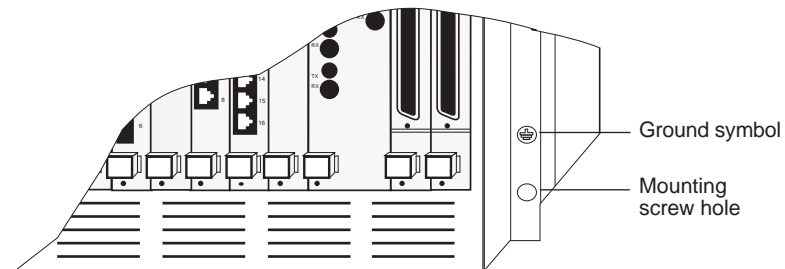

Figure 4 Ground Symbol for Static Discharge
- Always wear the ESD wrist strap provided with the module, ensuring that it makes good skin contact and that the alligator clip is connected to a suitable ground. See Figure 4 on page 8.
- 1 Discharge yourself of static electricity by placing the ESD wrist strap on your wrist and clipping the alligator clip to the mounting screw located next to the black ground symbol on the system's right mounting bracket. See Figure 4. If your system does not have mounting brackets, touch the rear panel.
- 1 Discharge yourself of static electricity by touching the mounting screw located next to the black ground symbol on the system's right mounting bracket. See Figure 4. If your system does not have mounting brackets, touch the rear panel.